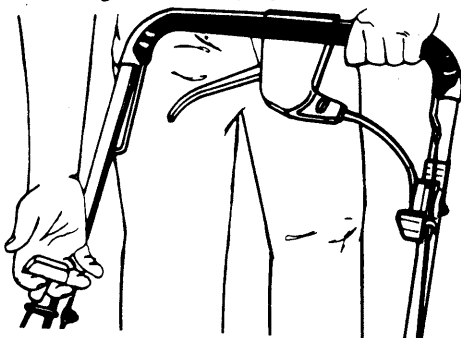

FIGURE 14.
3. Standing behind the unit, depress the blade control handle and hold it against the upper handle as shown. See figure 14.